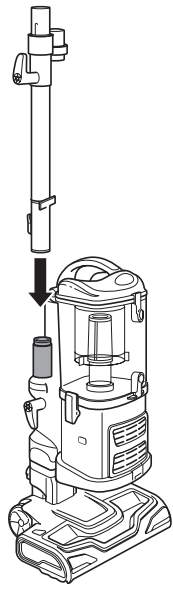

Fig. 4
- 3 Attach the wand to the tube on the back of the canister until it clicks into place. **(Fig. 4)**